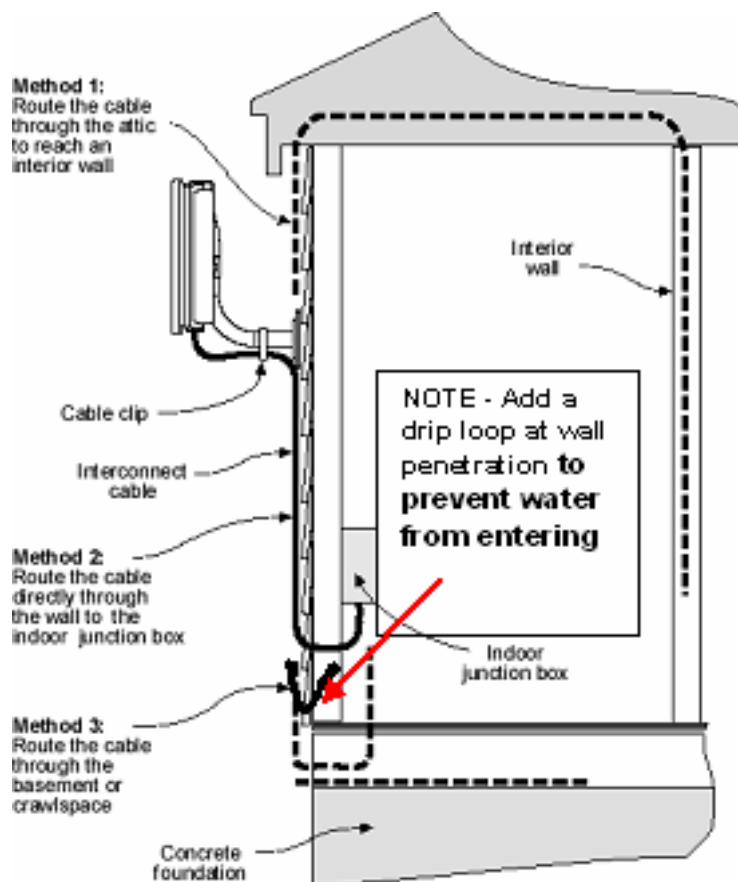

Figure 6-1 Interconnect Cable Routing Solutions
- 1) Select where the cable will enter the building from the outside (Figure 6-1).